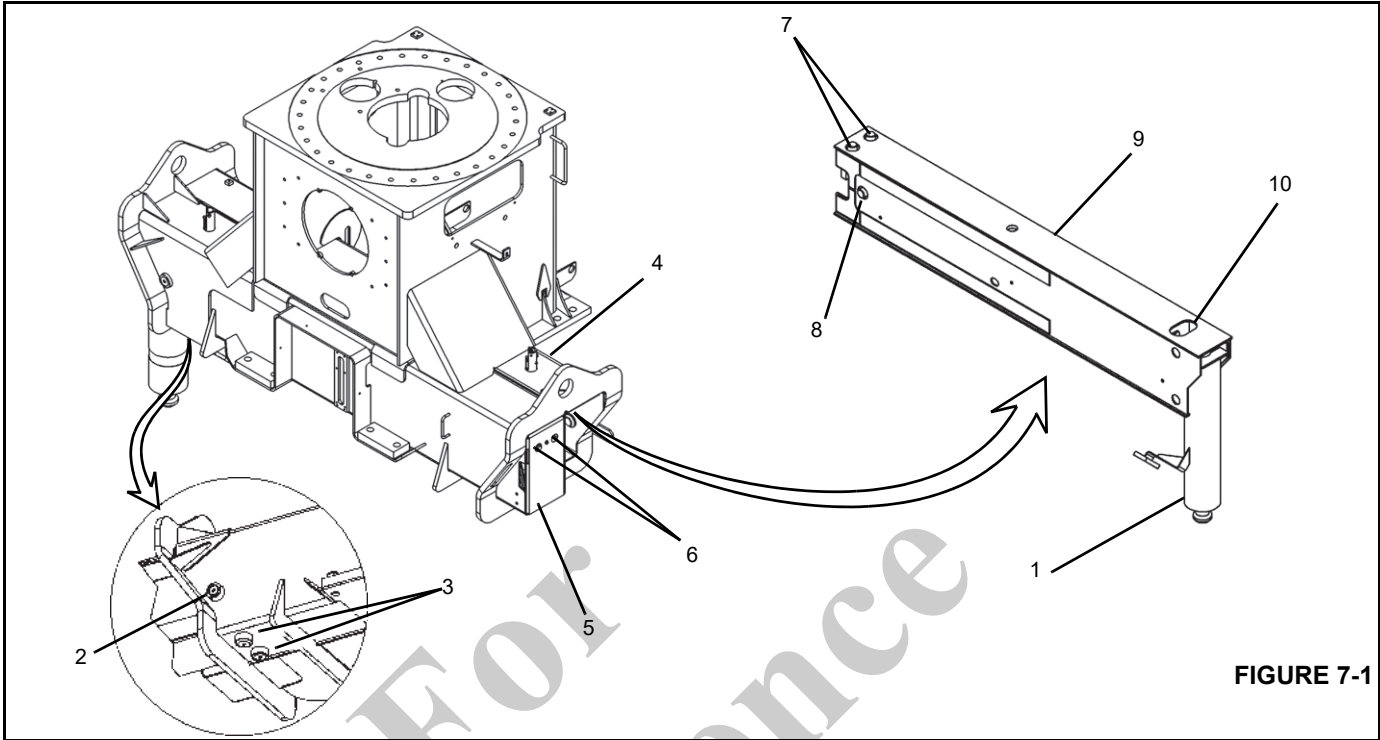

FIGURE 7-1
The front outrigger assembly (Figure 7-1) consists of the following:
7. Remove the wear pad set screws in the top of the outrigger beam and back off the top wear pads (7) (Figure 7-1).
3. Screw the bottom wear pads on the outrigger box (Figure 7-1) in and back off about 1/2 turn to maintain 3.3mm (.13 inch) gap.
4. Screw the side wear pads on the outrigger box (Figure 7-1) in and back off about 1/2 turn.